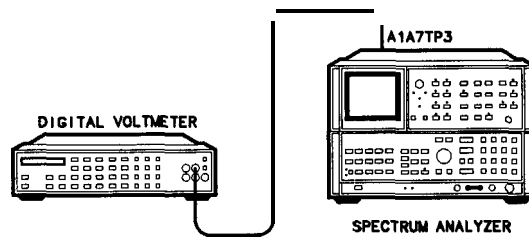

Figure 3-12. High Voltage Adjustment Setup
2. Remove the top cover from the IF-Display Section and connect the equipment as shown in Figure 3-12.